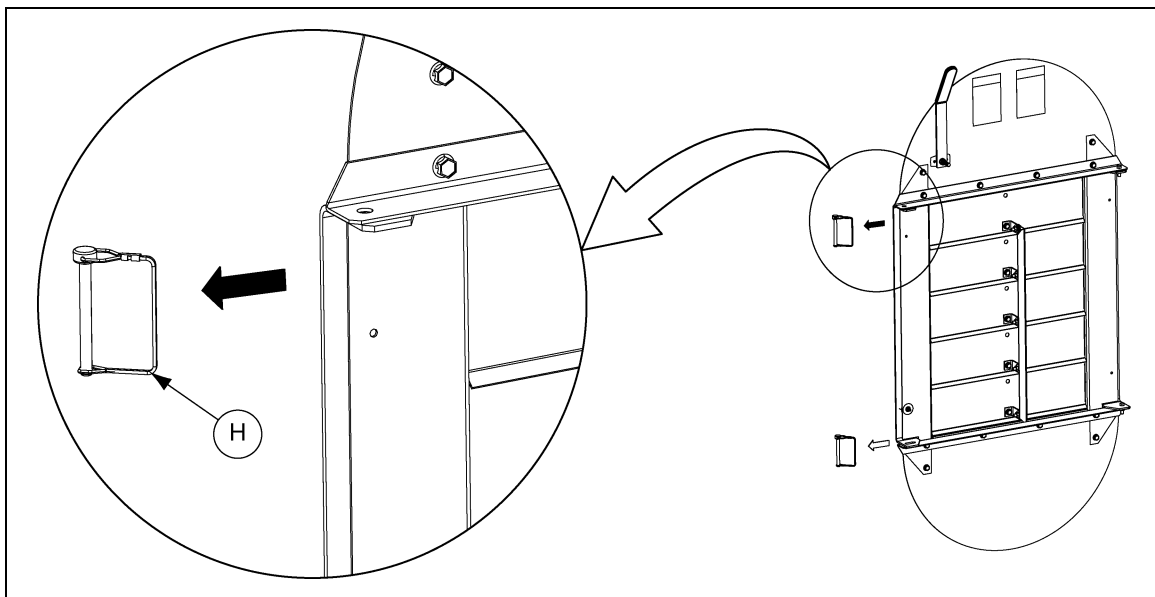

Figure 4
4. Remove the locking pins (H). *(See Figure 4.)*